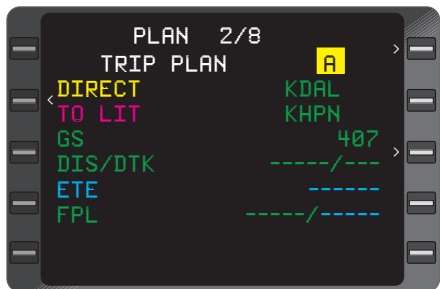

Figure 3-158
3. Desired Flight Plan - INSERT Flight Plan Number (Figure 3-157) or "A" for Active Flight Plan. (Figure 3-158).